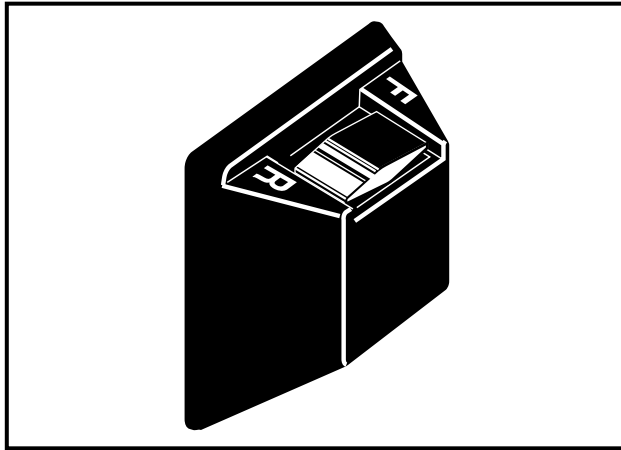

FIGURE 6
The forward/reverse shift switch is located in the same place as the forward/reverse shift lever on all other DS models; on the seat support panel below and to the right of the driver's right knee. The Forward (F) and Reverse (R) positions are clearly marked on the switch. Push down the **F** (forward) side of the switch to run the vehicle in the forward direction, or push down the **R** (reverse) side of the switch to run the vehicle in reverse. When the switch is positioned with neither side down, the vehicle is in the NEUTRAL position and the vehicle will not run if the accelerator is depressed (See Figure 6).